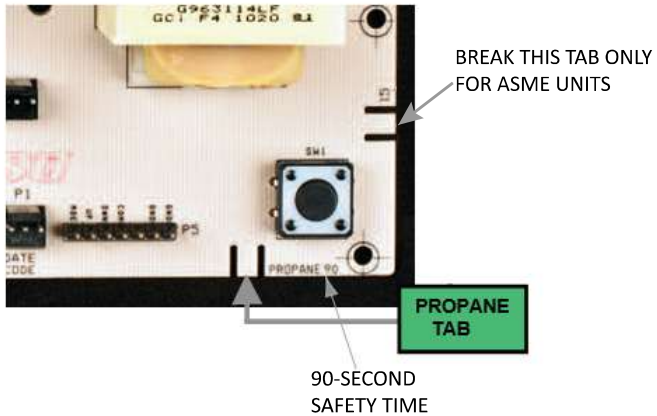

Figure 15. Propane Tab Location
1. Locate the proper propane tab on the PCB board as shown in Figure 15.